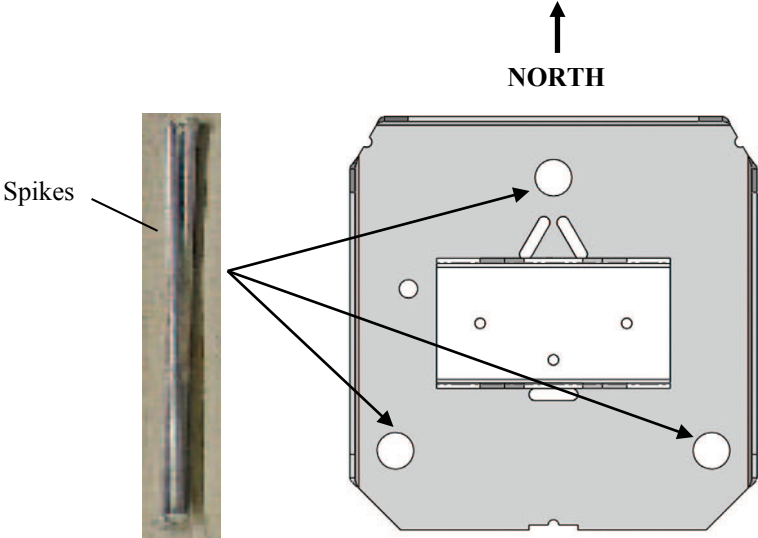

FIGURE 3-5. Spike installation
Step 3: Use spikes provided (3 each) to anchor base to site (see FIGURE 3-5).